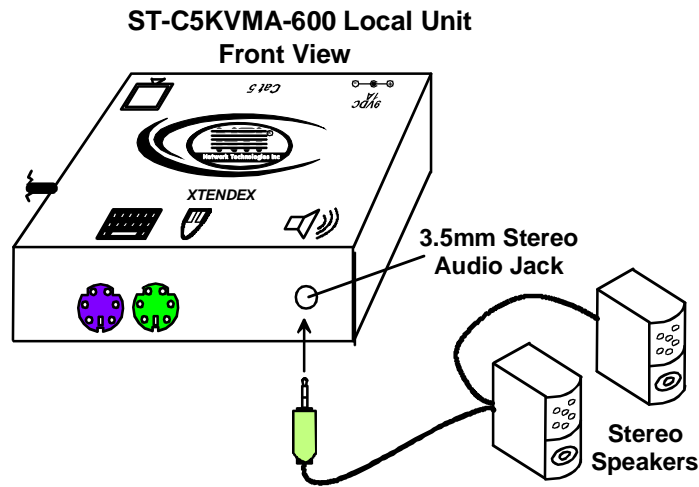

Figure 4- Connect stereo speakers to XTENDEX Local Unit with audio support
- e) If the Local Unit has audio support, connect the cable from the local speakers to the 3.5mm stereo audio jack on the Local Unit. (See Figure 4)